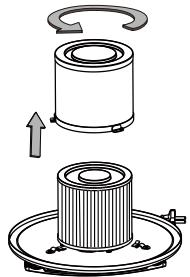

Fig 9
- Unlock and remove the filter cage by turning it counter clockwise (Fig. 9).